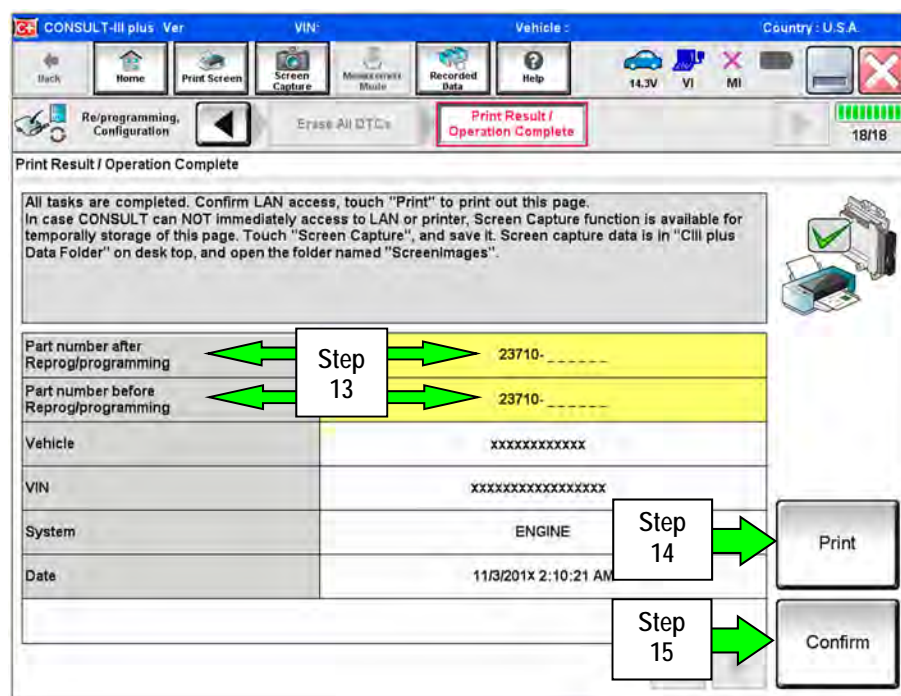

Figure 8
12. When the entire reprogramming process is complete, the screen in Figure 8 will display.
14. Print a copy of this screen (Figure 8) and attach it to the repair order for warranty documentation.